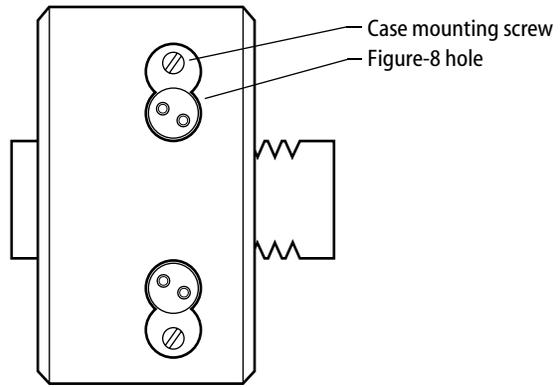

Figure 2 — Removing the case mounting screws
- 2 Remove the case mounting screws at the back of the figure-8 hole. See Figure 2.